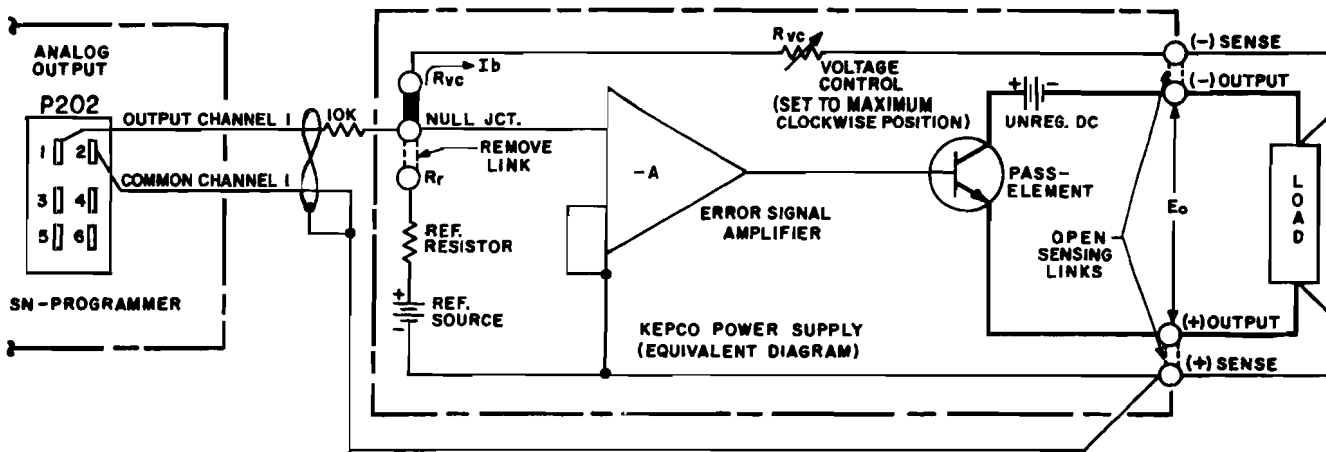

FIG. 3-5 OUTPUT VOLTAGE CONTROL WITH A TYPICAL KEPKO POWER SUPPLY AND THE SN PROGRAMMER
3-13 OUTPUT VOLTAGE CONTROL. Many Kepco Power Supplies require a d-c control current of 0 to 1 mA for zero to maximum output in the voltage mode. This requirement is readily satisfied by connecting a series resistance of 10k ohm as shown in Fig. 3-5. THE RESISTOR SHOULD BE LOCATED AS CLOSE TO THE POWER SUPPLY "NULL JUNCTION" TERMINAL AS POSSIBLE.
- A) According to Table 3-2, the interconnections between the SN programmer and the JQE are shown in Fig. 3-5. The relevant terminal numbers on the JQE rear barrier strip can be found in the Operating Section of the JQE manual.